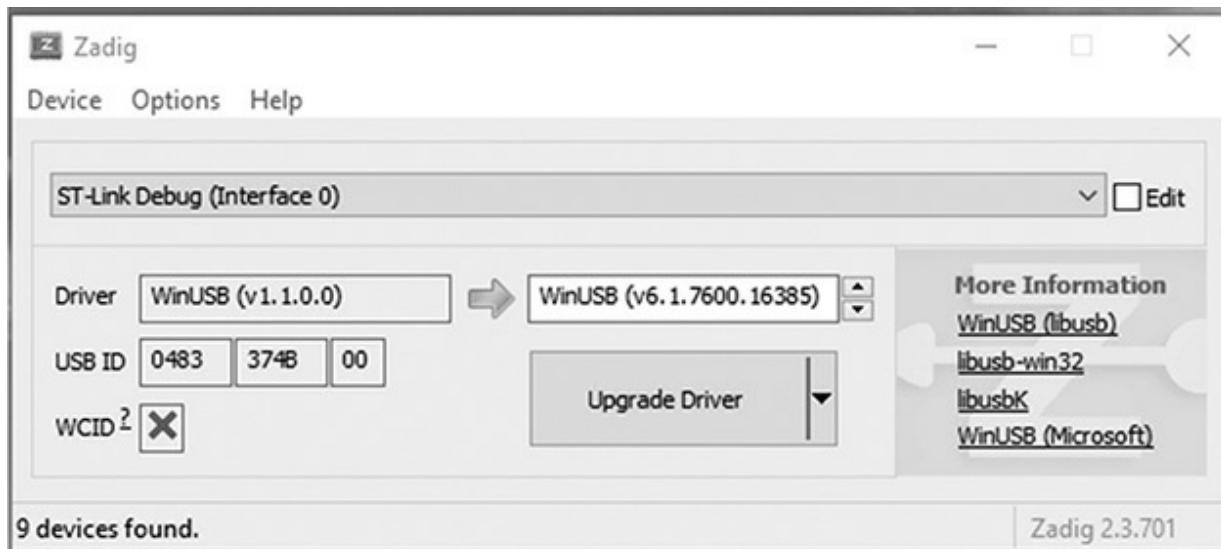

Figure 2-17 Reinstall WinUSB driver dialog box.
6. Click on the Reinstall Driver button as shown in Figure 2-17.